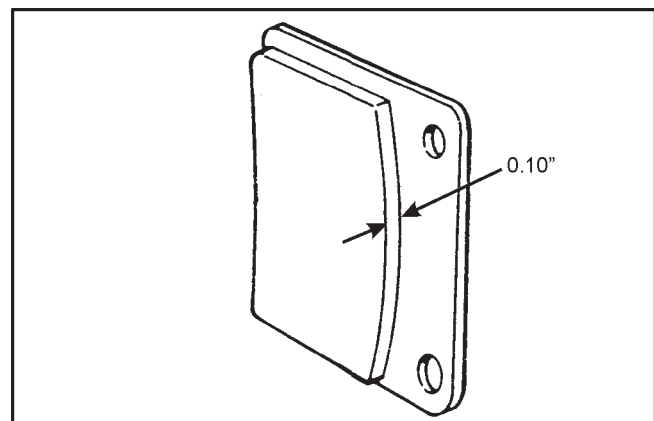

Figure 7-26. Brake pad wear; hydraulic brakes
- the brake lining material molded to each metal backing plate is worn to 0.10" thickness. (Figure 7-26)